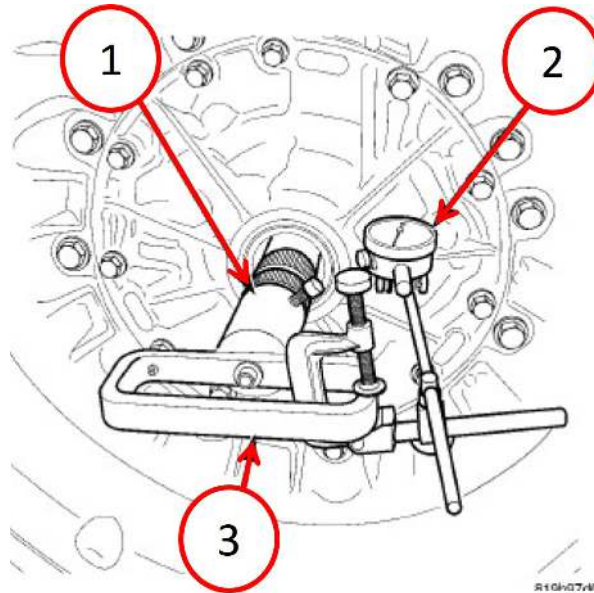

Fig. 3
6. Using Adapter Socket, End Play 8266-22 and the handle from End-Play Tool Set 8266B and Dial Indicator C-3339A, measure and record the input shaft end-play (Fig. 3) .